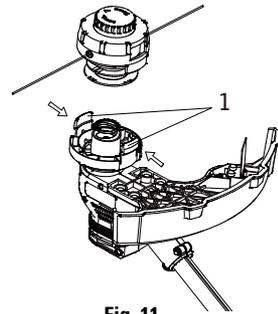

Fig. 11
1. Press the spool locking buttons (1) into the spool housing (Fig. 11).
Remove the spool from the spool housing, unwind approximately 3" (7.6 cm) of line and reinstall the spool (Fig. 11 through Fig. 14).
Remove the spool from the spool housing, unwind all the trimmer line from the spool and rewind the trimmer line onto the spool (Fig. 11 through Fig. 14).